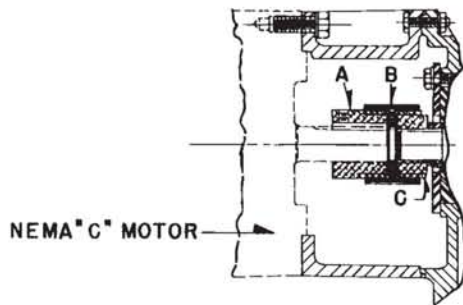

FIGURE 1
Shown in Figure 1 below is the C-FACE ASSEMBLY for mounting Nema C-face motor frames 48Y, 56C, and 140TC.
2. Slip reducer coupling hub C on the reducer input shaft until it shoulders on the reducer seal sleeve as shown in figure 1.
4. Guide motor shaft coupling hub A into the coupling sleeve as shown in figure 1.